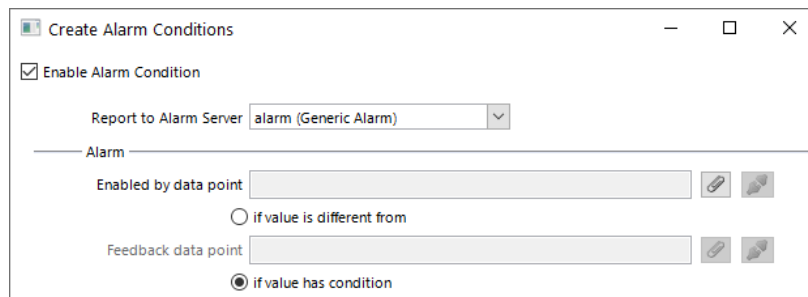

Figure 62: Common settings for an alarm condition.
3. For the alarm condition edit the following definitions, which apply to all condition types as shown in Figure 62. Select the **Alarm Server** which the alarm shall be reported to. Typically, you will choose a generic alarm server.